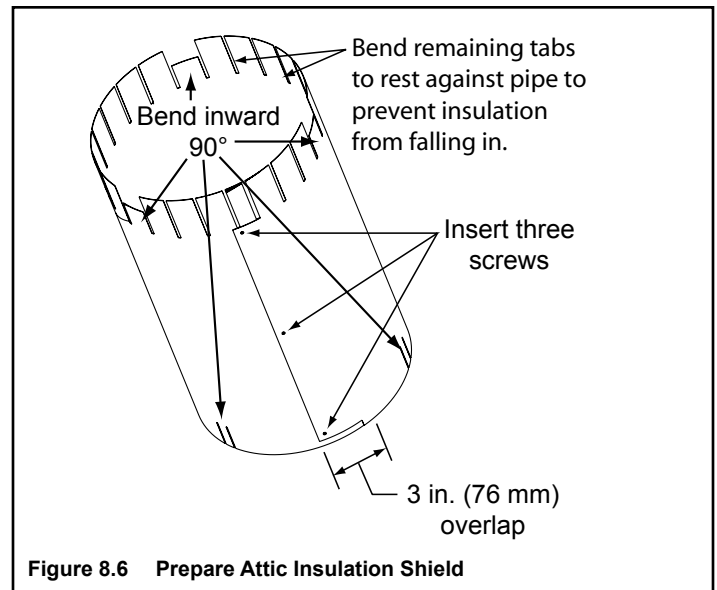

Figure 8.6 Prepare Attic Insulation Shield
- Use an attic insulation shield if the ceiling is insulated. The ceiling firestop may then be attached above or below the joists. Refer to Figure 8.6 and 8.7.
- Refer to Figures 8.6 - 8.8.
- Bend three tabs on the bottom of the tube inward to 90° to maintain chimney air space as shown in Figure 8.6.